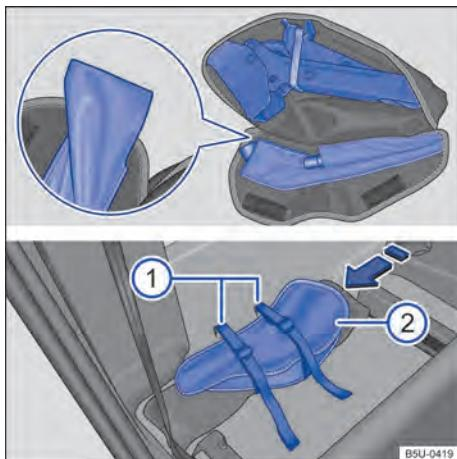

Fig. 160 Behind the passenger seat backrest: (1) vehicle toolkit securing straps and (2) vehicle toolkit bag.
- Fit the jack in the bag and fully close it → Fig. 160, with the jack base in the wider part of the bag.
- Fit the wheel wrench into its proper housing and ensure that the pawl → Fig. 160 (magnifying glass) is placed underneath the wheel wrench to prevent rattling when driving.
- Place the vehicle toolkit bag behind the passenger seat, on top of the warning triangle and through the fastening straps, as per → Fig. 160 in the direction of the arrow.
- For correct securing of the toolkit, position same with the velcro straps of the bag turned forward → Fig. 160 \(2\).